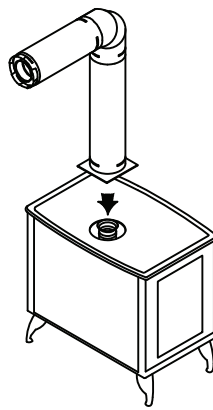

Figure 4
Step 2. DirectVent Pro pipe and fittings are designed with special twist-lock connections. To connect the venting system to the appliance flue outlet, a twist-lock Appliance Adaptor is required. With some brands of appliances, the DuraVent Appliance Adaptor will be built into the appliance at the factory. With other brands the adaptor will be supplied by the appliance manufacturer for installation in the field. Assemble the desired combination of Pipe Sections and Elbows to the Appliance Adaptor (**Fig. 4**).